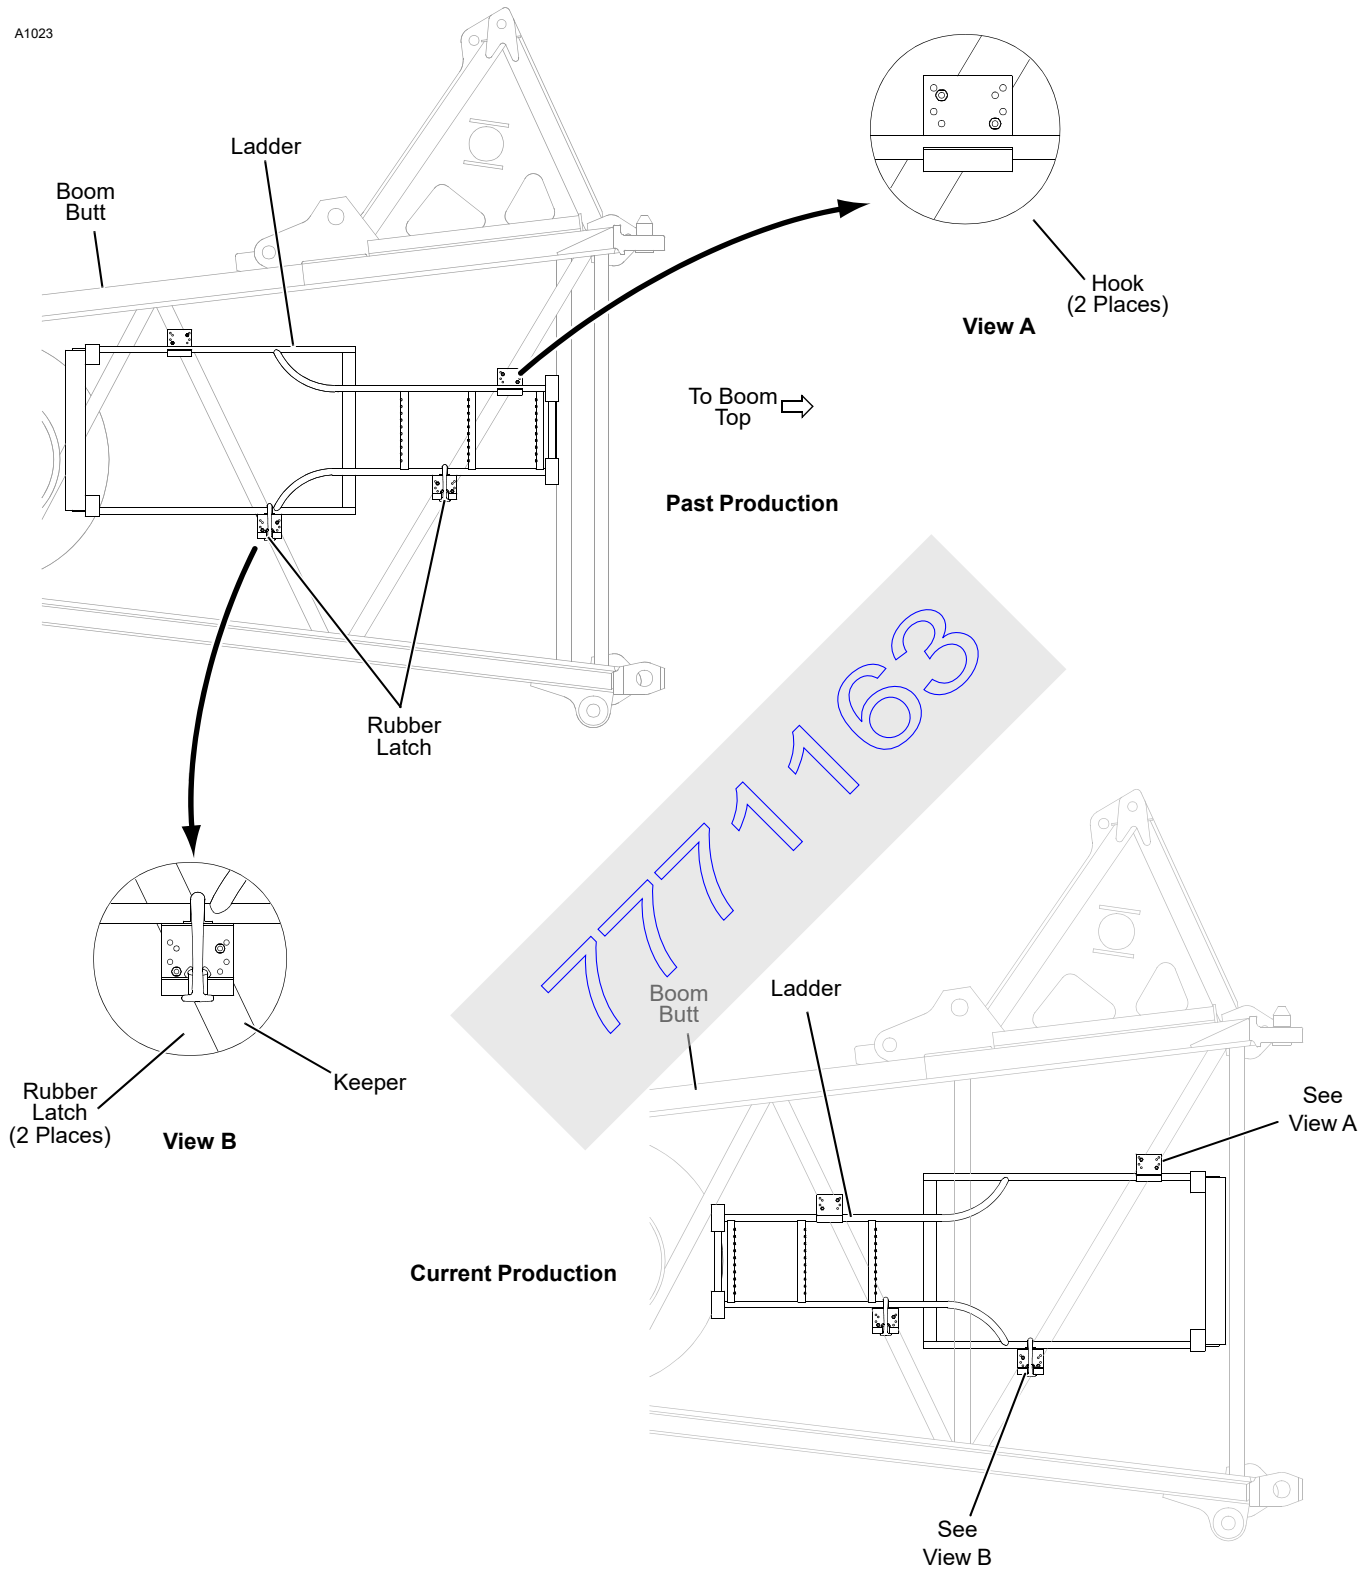

FIGURE 4-22
2. Unhook rubber latches (Figure 4-22, View B).
1. Hang ladder rails over hooks inside butt (Figure 4-22, View A).
2. Pull rubber latches tightly over lower rail and latch in keepers (Figure 4-22, View B).